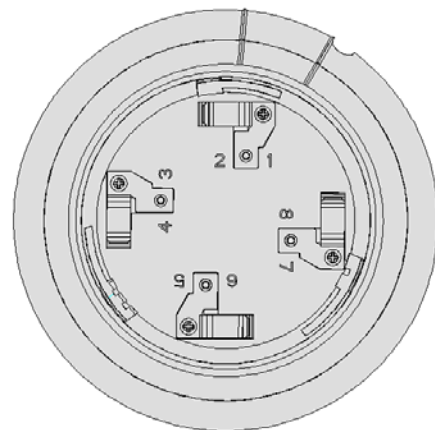
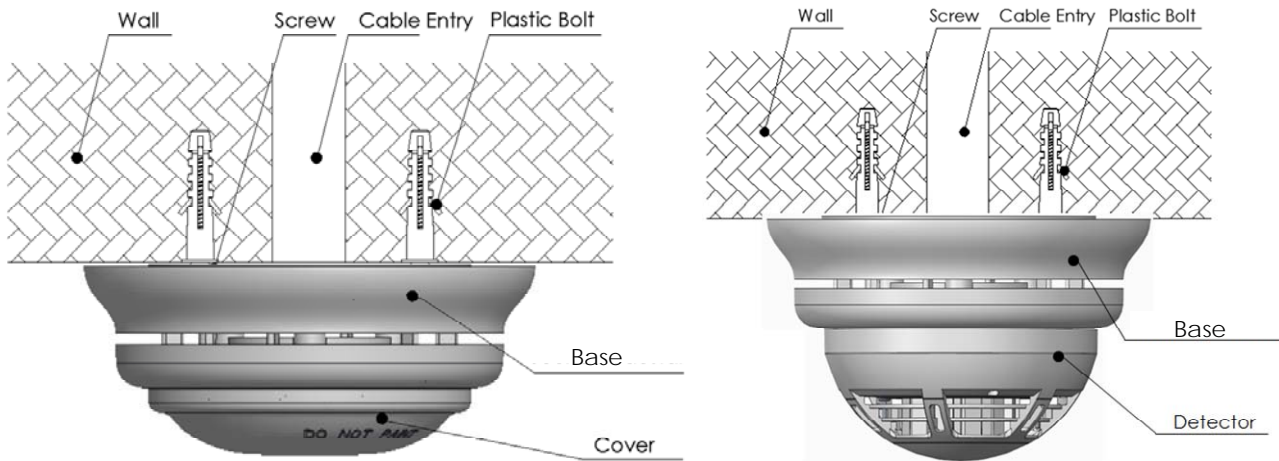

Fig.3 Top structure of the Base
Fig.4 Addressable Sounder Base with an upper cover or a detector
3. The top structure of the Addressable Sounder Base as shown in Figure 3. An upper cover or a detector can be mounted on the Addressable Sounder Base, as shown in Figure 4.